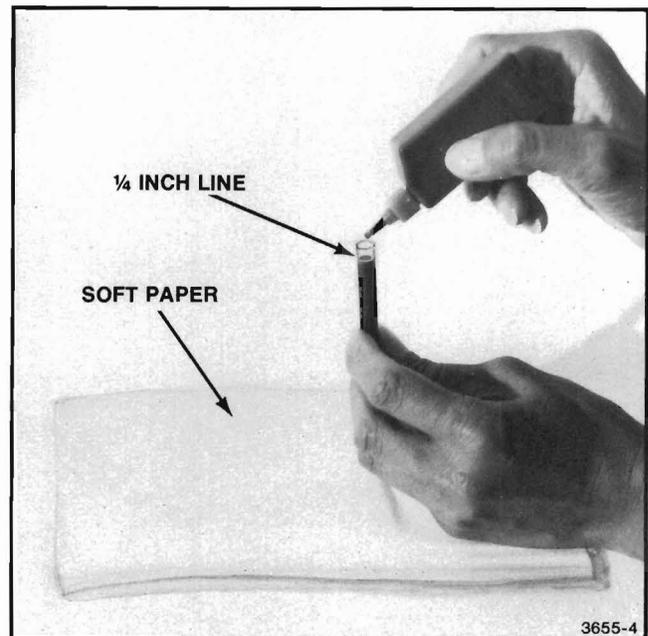

Figure 4-16. Filling the Ink Cartridge.
4. **Fill** the cartridge with the squeeze bottle to a line about 1/4 inch from the top of the cartridge. **Do not fill past the 1/4 inch line.** See Figure 4-16.